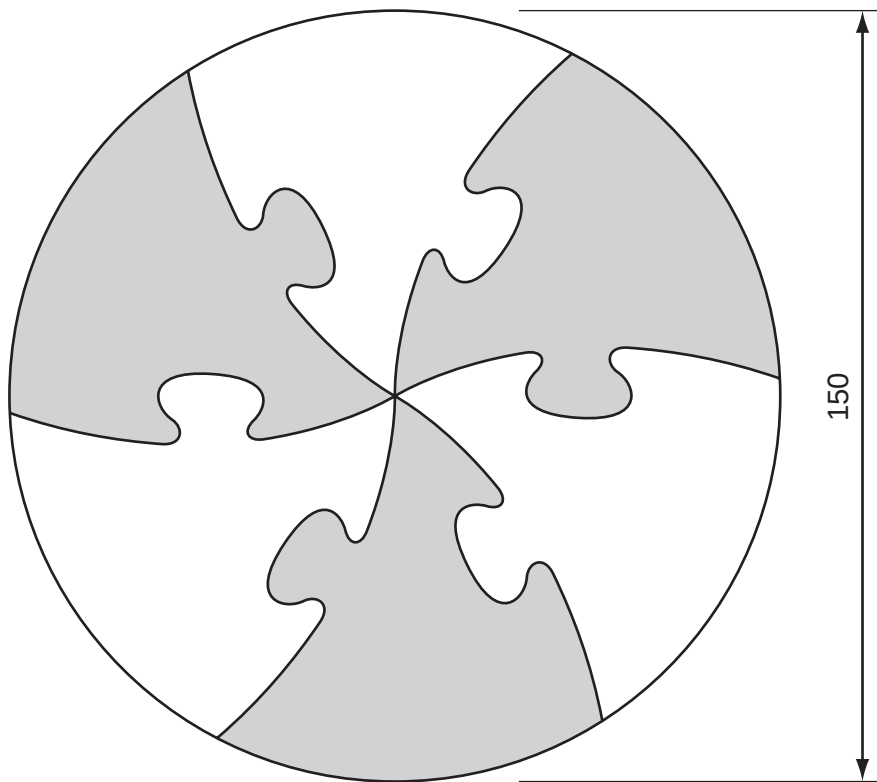

Fig. 7
- 13** Fig. 7 shows an idea for a puzzle that is made up of six interlocking pieces that join together to form a disc.